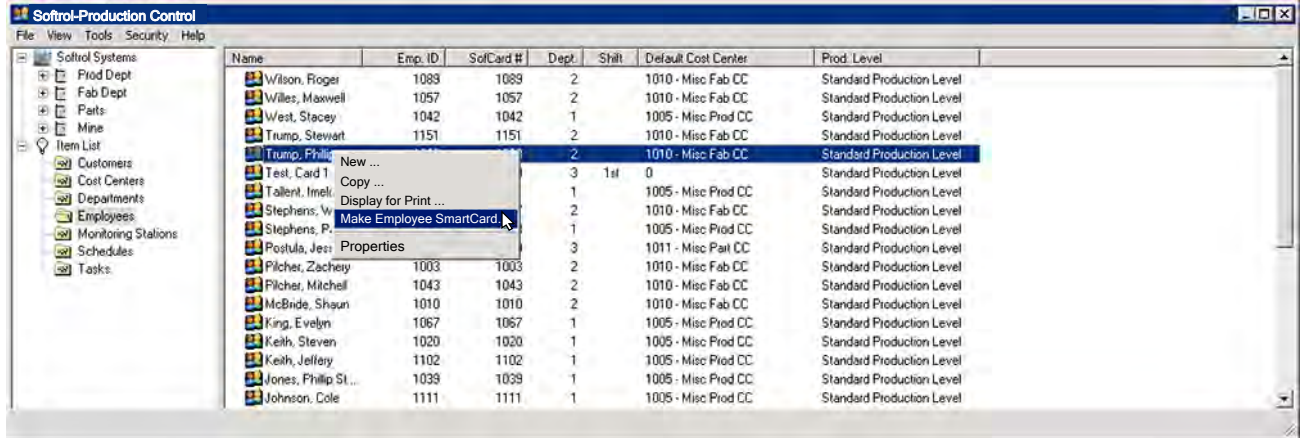

Figure 45. Setup Employees: Make a SofCard for an existing employee.
2. Select the **Make Employee SmartCard** option in the menu to access the *Create SmartCard* dialog (see Figure 45).